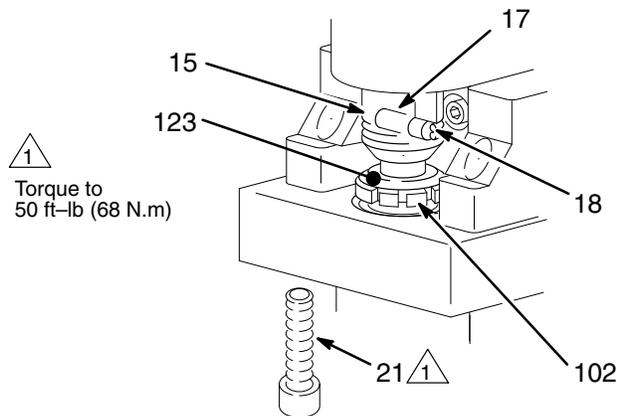

Fig. 18
MOVING PARTS HAZARD Be sure the retaining spring (18) is firmly in the groove all the way around, to prevent the pin (17) from working loose due to vibration. See Fig. 18. If the pin works loose, parts could be projected into the air and cause serious injury or property damage, including the pump connecting rod or bearing housing.
3. Replace the o-ring (27) if it is worn or damaged. See page 32. Reconnect the suction and drain hoses (32,33). Install the front cover (13).
4. Tighten the packing nut (102) just enough to stop leakage, but no tighter. Fill the packing nut/wet-cup 1/3 full with Graco TSL. Push the plug (123) into the wet-cup.